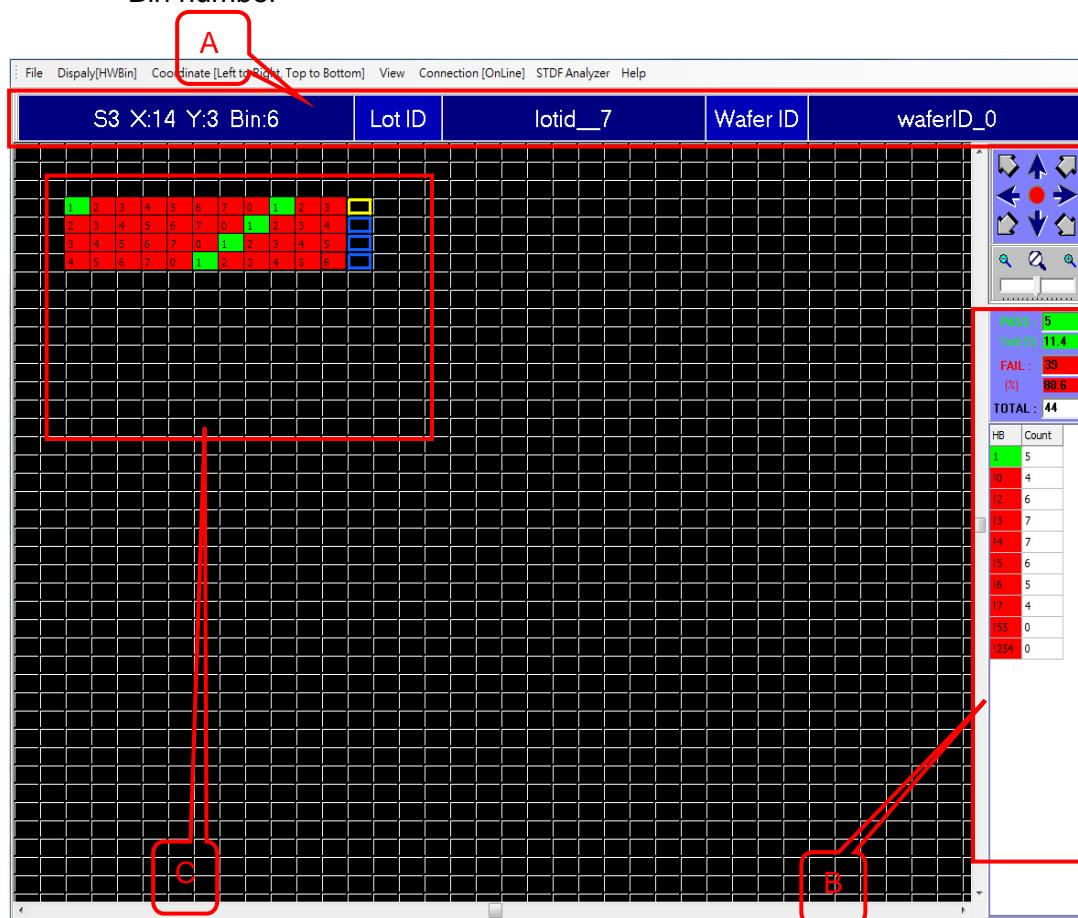

Figure 18-4 Initial Window
- (1) The following parameters are indicated in section A of the wafer map shown in Figure 18-4:
- (2) Section B in Figure 18-4 displays the following test results,
- (3) Section C in figure 18-4 provides the following information: